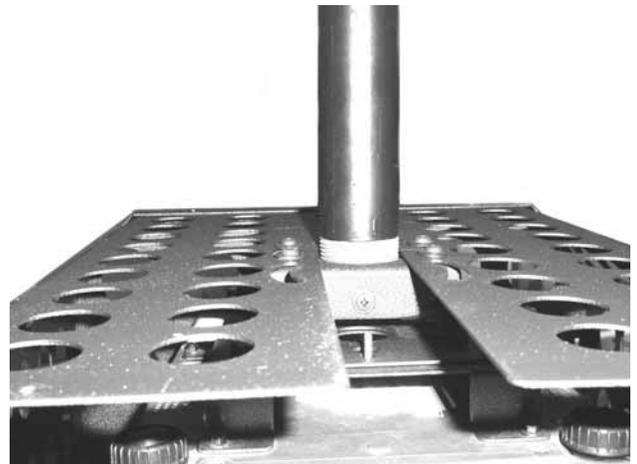

Figure 9. Install Security Mount Over RPA
4. Slide the projector cage over the RPA and secure using four 1/4 - 20 X 1/2" (optional security) Phillips head screws and washers provided (see Figure 9).